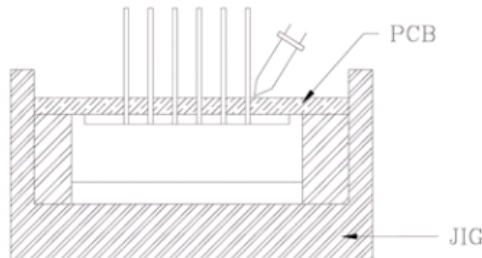

Fig.2
2) When soldering wire to the lead, work with a Fig (See Fig.2) to avoid stressing the package.